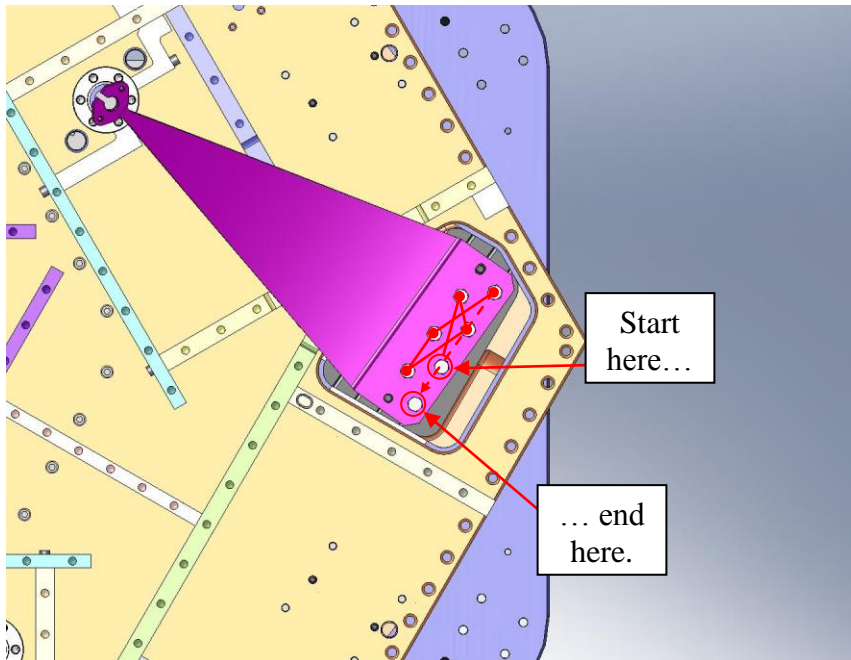

Figure 3.81. A staggered bolt tightening pattern. Use a similar pattern when torquing the Spring bolts.
- Snug all (7) hex bolts on each **Spring**, then torque to spec. Use a staggered tightening pattern, e.g. the one shown in Figure 3.81.